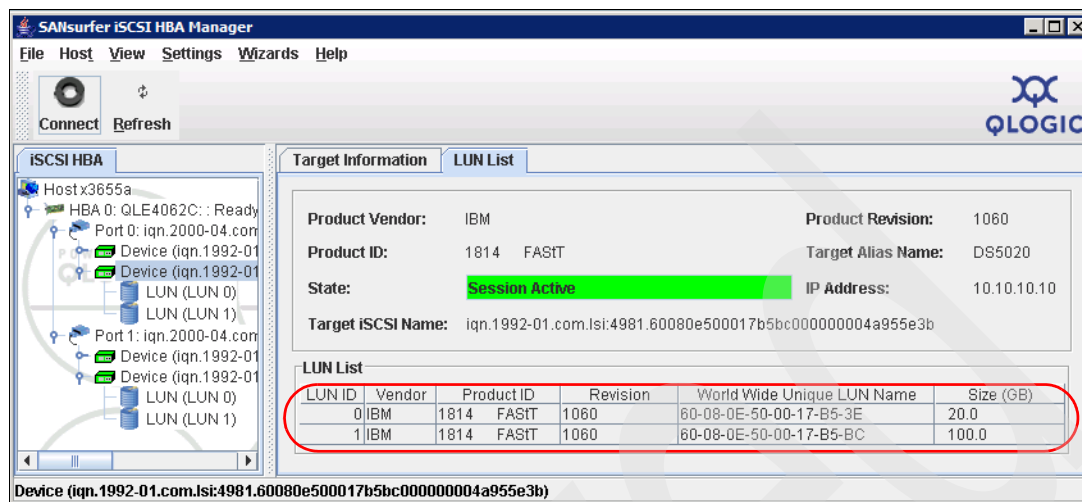

Figure 3-26 Viewing Mapped LUNs at the host
12. Confirm that the logical volumes mapped are recognized by the host, as shown in Figure 3-26.